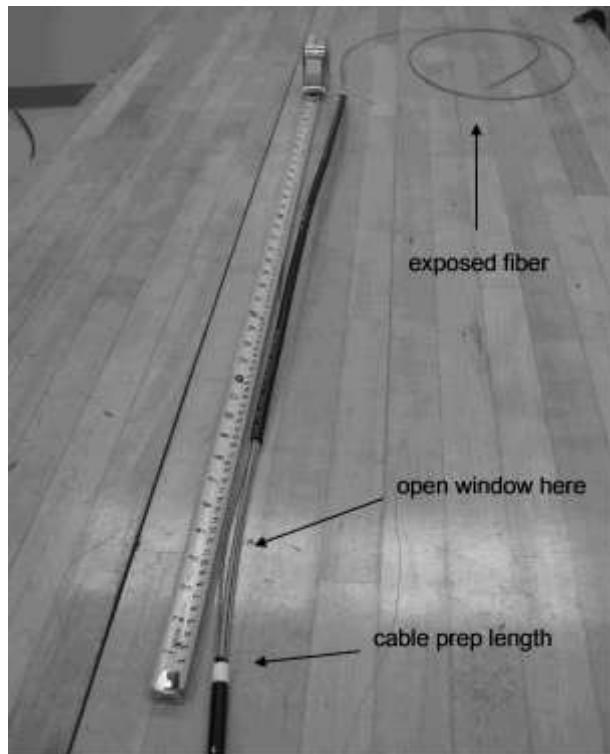

Figure 14 – Cut a window in jacket to expose the buffer tube.
5.5 After exposing the required fiber length, open a window in the cable jacket and armor tape to expose a short length of the buffer tube. The window is opened at the cable prep length marked in step **5.2** above. Repeat steps **4.3** thru **4.8** above to expose the buffer tube (Figure 14)